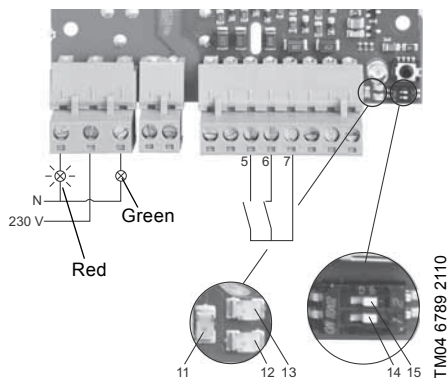

Fig. 9 Detection of high water level
See fig. 9.
Use terminal (pos. 6) when an NC contact is to be used to indicate high water level. See fig. 9.
The green indicator light indicating normal operation is off. LED1 (pos. 11) flashes. The number of flashes indicates the current alarm. See section 7.1.1 *System alarms and warnings* and fig. 9.